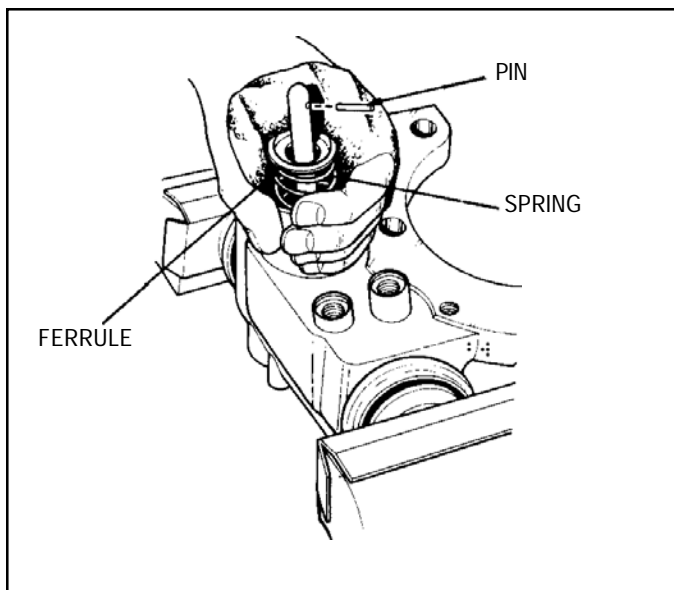

FIGURE 16 - REMOVAL OF PIN FROM WEDGE
2. Compress the wedge return spring and remove the pin, *Figure 16*. Slowly release the spring pressure and remove spring along with the ferrule.
insert the assembly into the bore of the housing until it engages the wedge cage and rollers, *Figure 16*. Install and tighten the stop pin to 16 ft. lbs. (23,3 N.m).
8. Turn the expander housing in the vise to enable the wedge return spring to be installed. Locate the spring ferrule on the spring and compress the spring over the wedge stem until the pin can be inserted, *Figure 16*. Release the spring carefully.